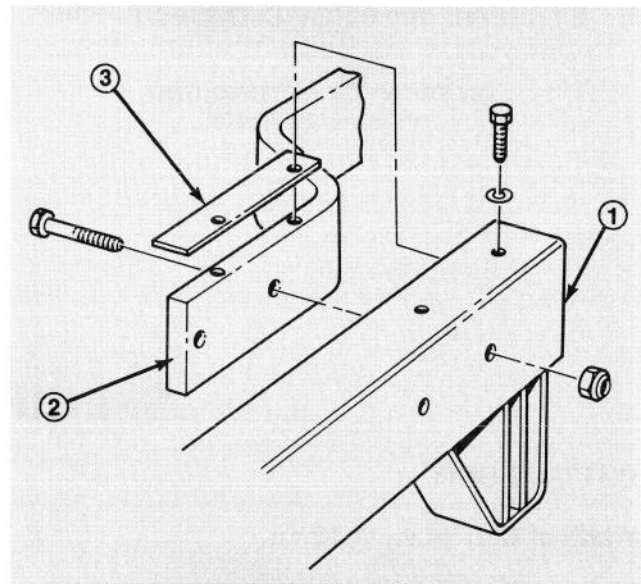

Figure 2
1. Align carrier frame mounting holes with mounting holes in traction frame, while positioning shim on traction frame and aligning mounting holes (Fig. 2).